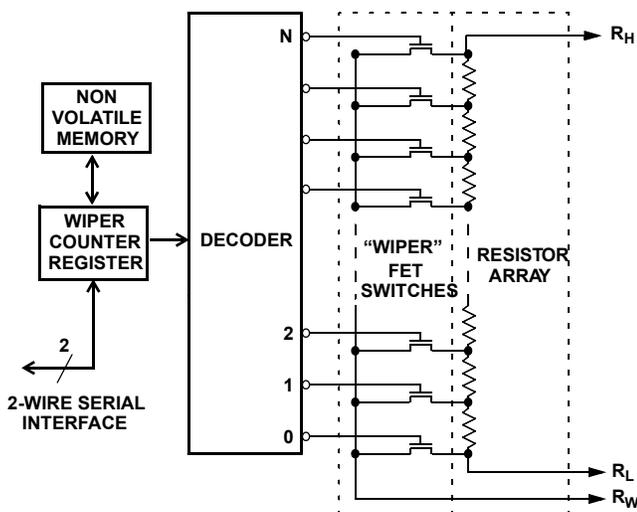

FIGURE 6. BLOCK DIAGRAM OF DIGITALLY CONTROLLED POTENTIOMETER
The block diagram in Figure 6 shows the main features of the XDCP. The wiper / tap position is changed using a “make-before-break” scheme in which the new tap position switch closes before the previous opens. This method avoids open-loop behaviour of the bias control circuit, in which the bias could be driven to dangerous levels.
8. Honeywell Optoelectronics Application Sheet, "Modulating VCSELS", Jim Tatum and Jim Guenter, figure 6.